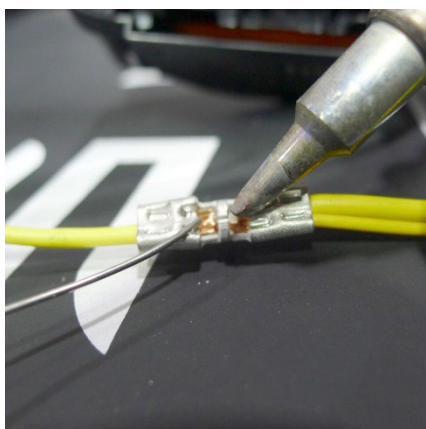

Figure 15 – Crimp wire and solder barrel crimp
15. Make a butt splice repair to attach the yellow power terminal wire to the barrel crimp of the jumper (Figures 15, 16, and 17).